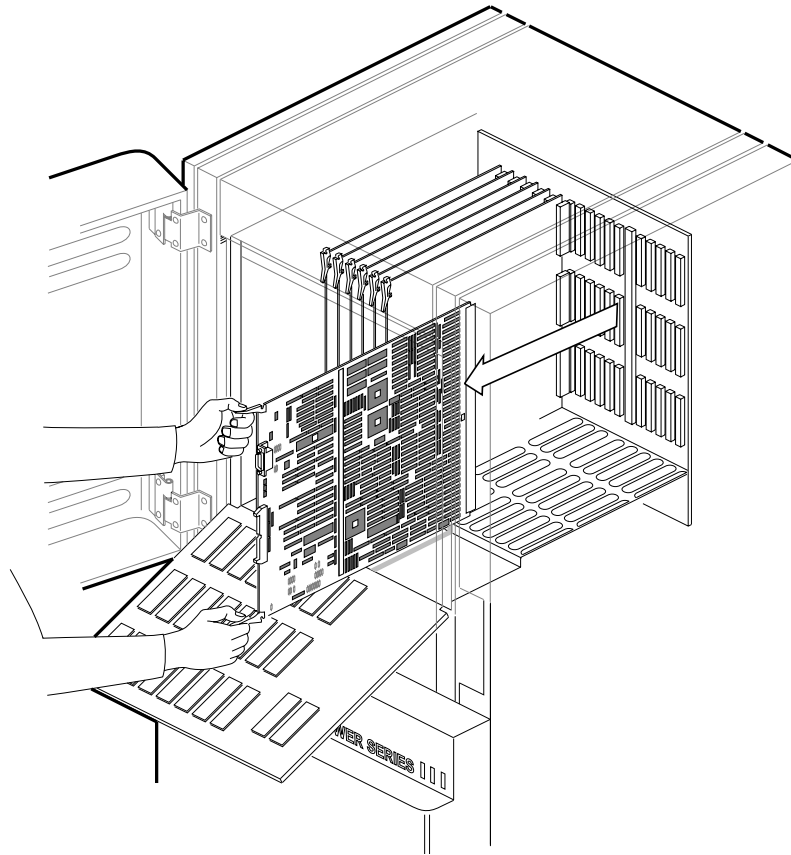

Figure 3-3 Removing a Board from a Rackmount System
5. Use the board ejector tabs to remove the old IP17 board from the chassis (Figure 3-3); place it on an antistatic mat.